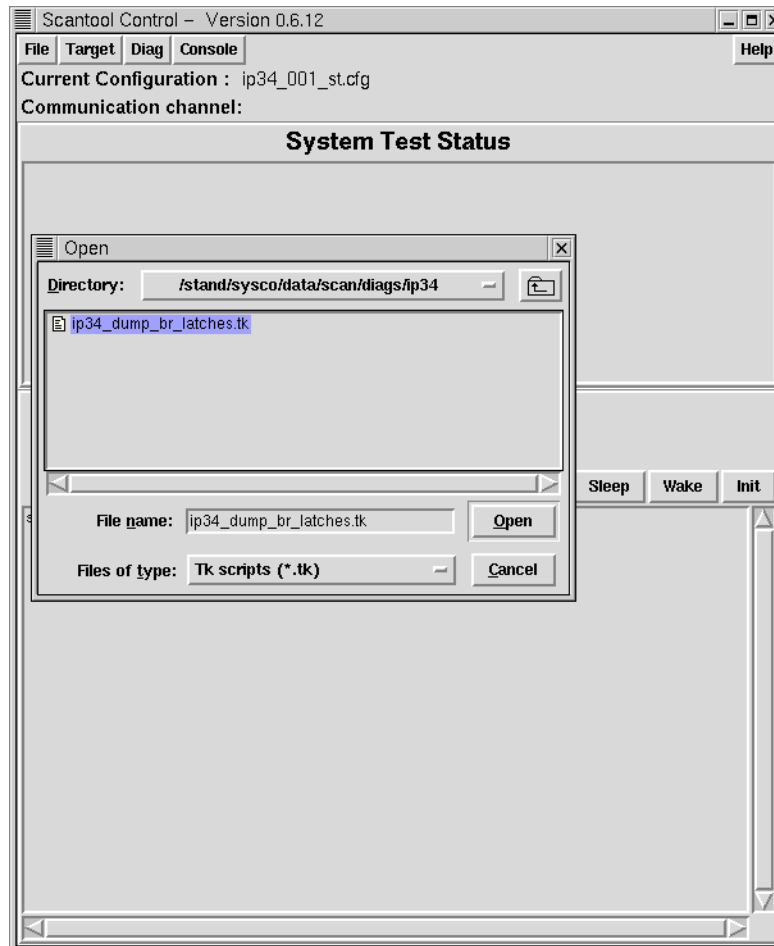

Figure 2-18 Loading the ip34_dump_br_latches.tk Script
- Double-click on ip34_dump_br_latches.tk. (Refer to Figure 2-18.)